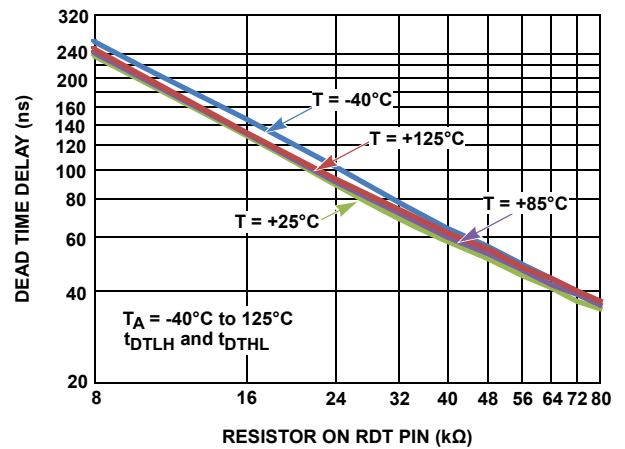

FIGURE 10. DEAD-TIME DELAY VS RDT RESISTOR
When the PWM input transitions high or low, it is necessary to ensure that both bridge FETs are not on at the same time to prevent shoot-through currents. The ISL78420 programmable timers delay the rising edge of the high-side (HO) and low-side (LO) gate drives so that both FETs are off before one of them is turned on. The dead-time delay on the rising edge of LO and HO is programmable with a single resistor from the R_{RDT} pin to V_{SS}. The dead time is adjustable from 35ns (R_{RDT} = 80kΩ) to 220ns (R_{RDT} = 8kΩ). It is not recommended to use resistors beyond these values. The dead time is set equal on both falling edges of LO and HO. See "Timing Diagram" on page 6 for the definition of dead-time delay. See Figure 10 on page 7 for the programmed dead time vs resistor value.